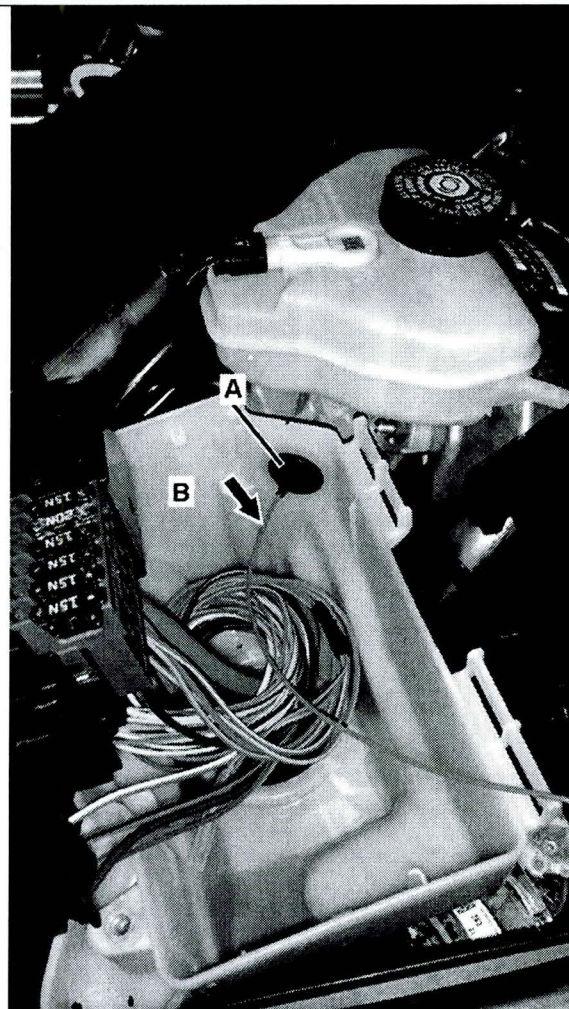

Figure 6
- Vacuum out any drilled shavings from fuse and relay module box (A).
7. Insert grommet (A, Figure 6) into hole in engine fuse and relay module box (B).
8. Route red wire (Arrow, Figure 6) from illuminated star wiring harness through hole in grommet (A).